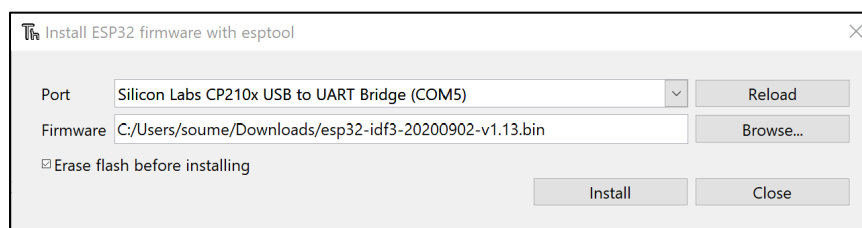

Figure 2. Select the port and downloaded MicroPython firmware
- After setting the interpreter and the port, click on the button: “Open the dialog for installing or upgrading MicroPython on your device”. Select your device’s port again and browse for the MicroPython firmware that you downloaded earlier for the “Firmware” field. **If you are flashing MicroPython on your board for the first time**, then make sure that “Erase flash before installing” is checked, then click “Install”, as shown in Figure 2.